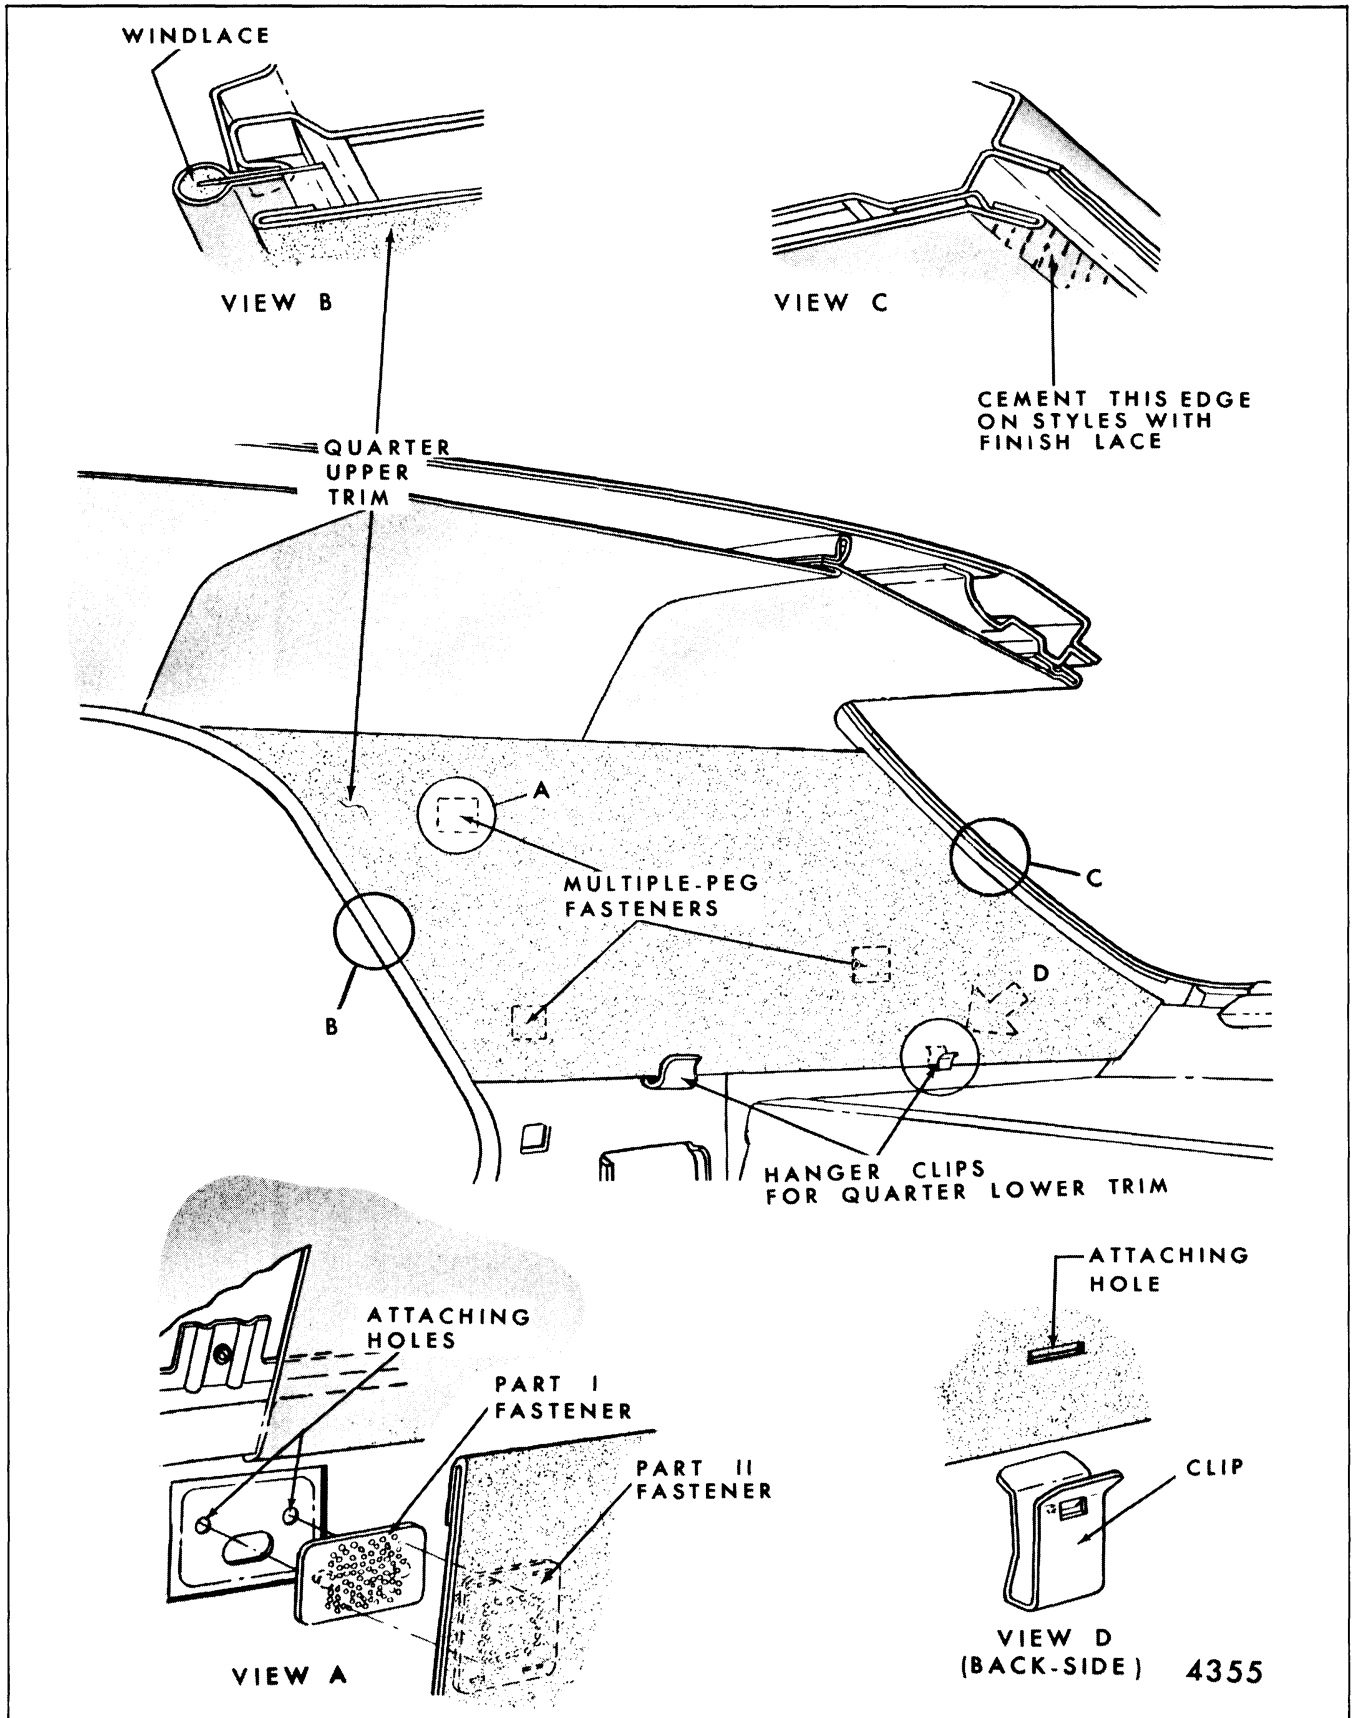

Fig. 6-11-Quarter Upper Trim Attachment - Typical Installation
2. Remove attaching screw(s) or, if cemented, carefully break cement bond between upper trim and retainer along back window (Figs. 6-11 and 6-12).
- c. Remove two (2) lamp base attaching screws.
5. With long flat-bladed tool, carefully locate and unfasten quarter upper trim two-part multiple-peg fastener (View "A", Fig. 6-11) and remove trim.
**NOTE:** Part 1 of fastener, as shown in Figure 6-11, secures to quarter inner panel. Part 2 of fastener (Fig. 6-11) is stapled to foundation of quarter upper trim. For best results during removal, confine prying operations between the fasteners.
6. To install trim assembly, feed courtesy lamp wire through trim panel. Also, position trim assembly at lower retaining clip ("D", Fig. 6-11) and along front and rear edges. Then, secure fasteners with moderate hand pressure. Reverse balance of removal operations. When necessary, use non-staining vinyl trim adhesive to cement trim at back window retainer.